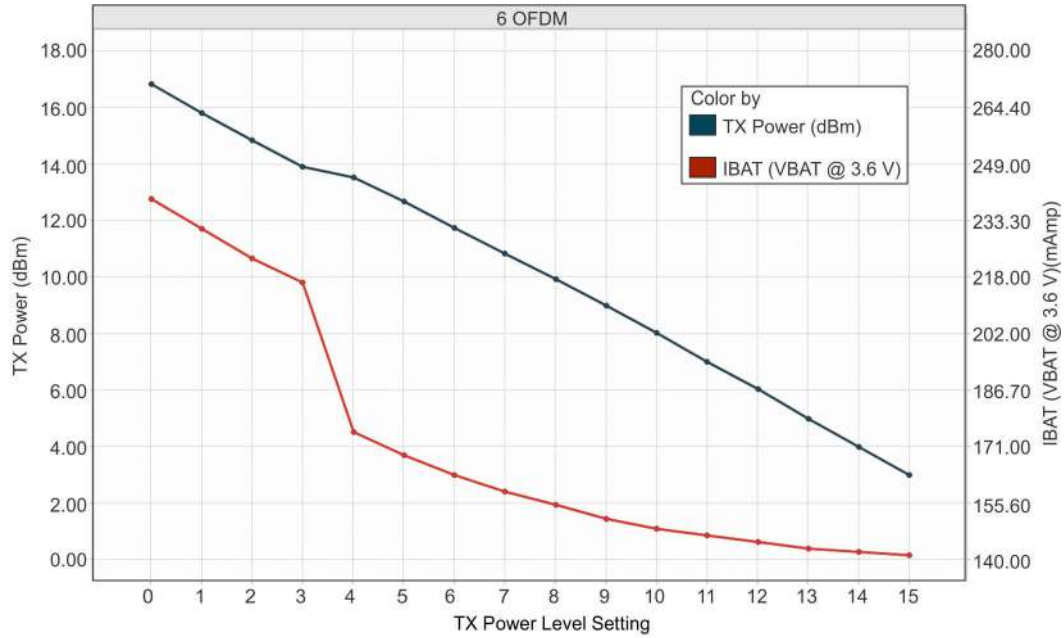
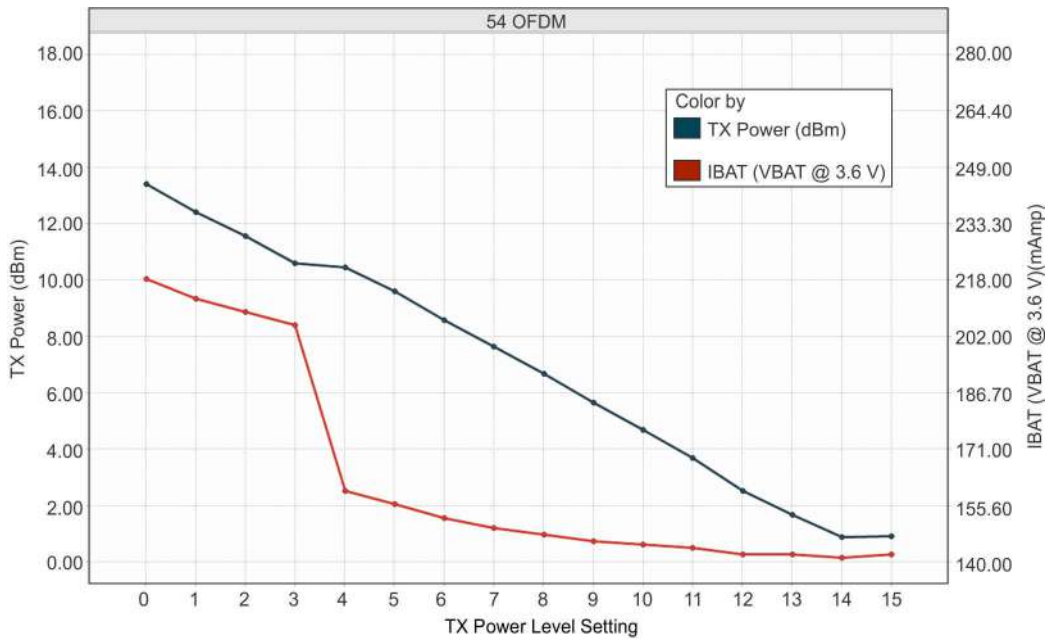

Figure 8-2. TX Power and IBAT vs TX Power Level Settings (6 OFDM)
Figure 8-3. TX Power and IBAT vs TX Power Level Settings (54 OFDM)
- (1) TX power level = 0 implies maximum power (see Figure 8-1, Figure 8-2, and Figure 8-3). TX power level = 4 implies output power backed off approximately 4 dB.
- (2) The CC3135MOD system is a constant power-source system. The active current numbers scale based on the V_{BAT} voltage supplied.
- (3) The RX current is measured with a 1-Mbps throughput rate.
- (4) DTIM = 1
- (5) The complete calibration can take up to 17 mJ of energy from the battery over a time of 24 ms. In default mode, calibration is performed sparingly, and typically occurs when re-enabling the NWP and when the temperature has changed by more than 20°C . There are two additional calibration modes that may be used to reduced or completely eliminate the calibration event. For further details, see CC31XX CC32XX SimpleLink™ Wi-Fi® and IoT Network Processor Programmer's Guide.
- (5) The complete calibration can take up to 17 mJ of energy from the battery over a time of 24 ms. In default mode, calibration is performed sparingly, and typically occurs when re-enabling the NWP and when the temperature has changed by more than 20°C . There are two additional calibration modes that may be used to reduced or completely eliminate the calibration event. For further details, see CC31XX, CC32XX SimpleLink™ Wi-Fi® and IoT Network Processor Programmer's Guide.